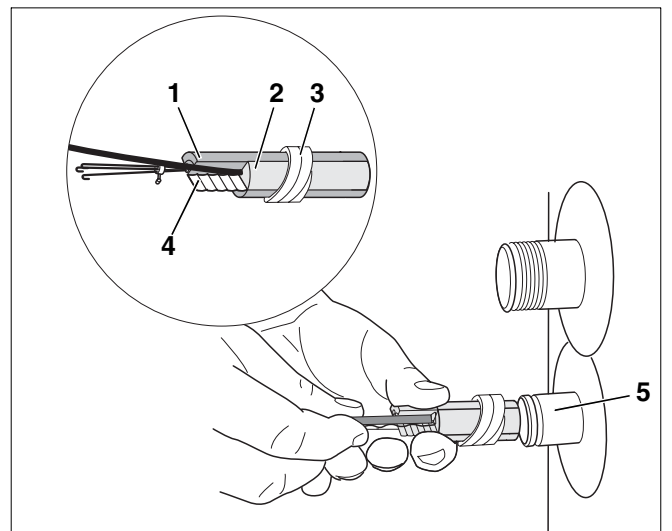

Fig. 7 Installing the DHW temperature sensor package
- Insert the sensor pack including the blank spacers and wavy compensating spring (Fig. 7, **Item 1 to 4**) until it bottoms out inside the sensor well (Fig. 7, **Item 5**). During insertion the plastic spiral (Fig. 7, **Item 3**), which holds the sensor together, slides back automatically.
The spring (Fig. 7, **Item 4**) ensures contact between the sensor well and the sensor surfaces and so a reliable temperature transfer.